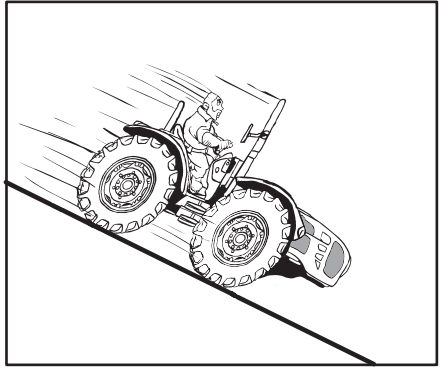

Fig. 2.23
- Engage a low gear before starting downhill or uphill (Fig. 2.23).